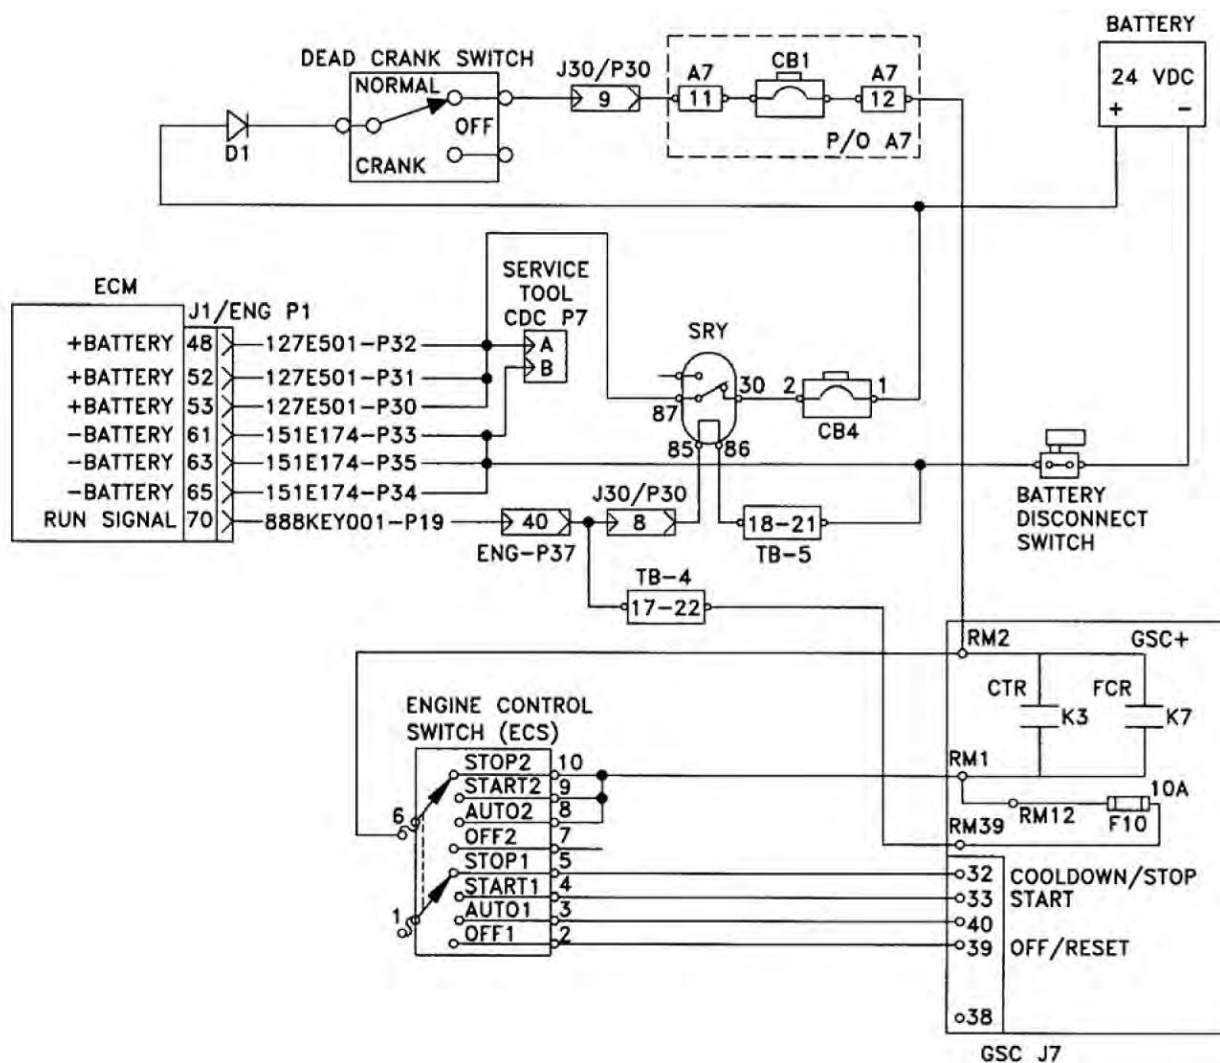

Figure 3. 24 VDC Electrical Circuits.
Use this procedure and Figure 3 to troubleshoot any suspect problems with the electrical supply to the engine Electronic Control Module (ECM). This procedure covers the following diagnostic code:
- (1) If the voltage measured at Steps 3c., 3d., 3e., and 3f. is  $24 \pm 3$  VDC. The ECM is receiving the correct voltage.
- (2) On the ECM inputs from the ENGINE CONTROL switch, if the voltage is not  $24 \pm 3$  VDC. Proceed to STEP 4.
- (3) If the voltage is not  $24 \pm 3$  VDC at the +battery terminals on ECM connector P1, proceed to STEP 5.
- b. Check the voltage between engine ground and the test points in Table 1. If voltage is not present at a test point, the problem is in the device, in the wire or in the connector that precedes the point in the circuit. Refer to Figure 3 and FO-1, Sheet 2 as required).
- (1) If the voltage is  $24 \pm 3$  VDC at all test points, the wire 800KEY001-P19-T between ECM connector ENG-P1-70 and connector ENG-P37 is defective. Repair wire 800KEY001-P19-T and/or connections between connector ENG-P37 and ECM connector ENG-P1-70 (WP 0096).
- (2) If the voltage is not  $24 \pm 3$  VDC at a test point, repair the device, connectors and/or wiring. (WP 0040, WP 0041, WP 0042, WP 0096, FO-2, Sheet 2; FO-4, Sheets 1-4).
DEVICE (Figure 3)	TERMINAL
- Check the voltage between engine ground and the test points in Table 2. If voltage is not present at a test point, the problem is in the device, in the wire or in the connector that precedes the point in the circuit. Refer to Figure 3, FO-2, Sheet 2; and FO-4, Sheets 1-4.